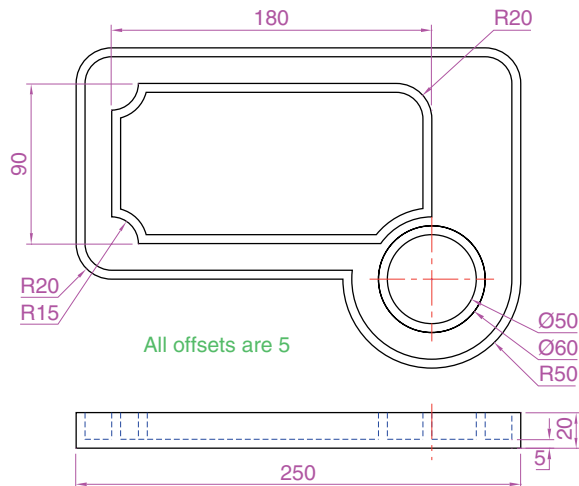

Fig. 19.12 Sixth example – **Copy Faces** tool – details of the 3D solid model
1. Construct a 3D model to the sizes as given in Fig. 19.12.